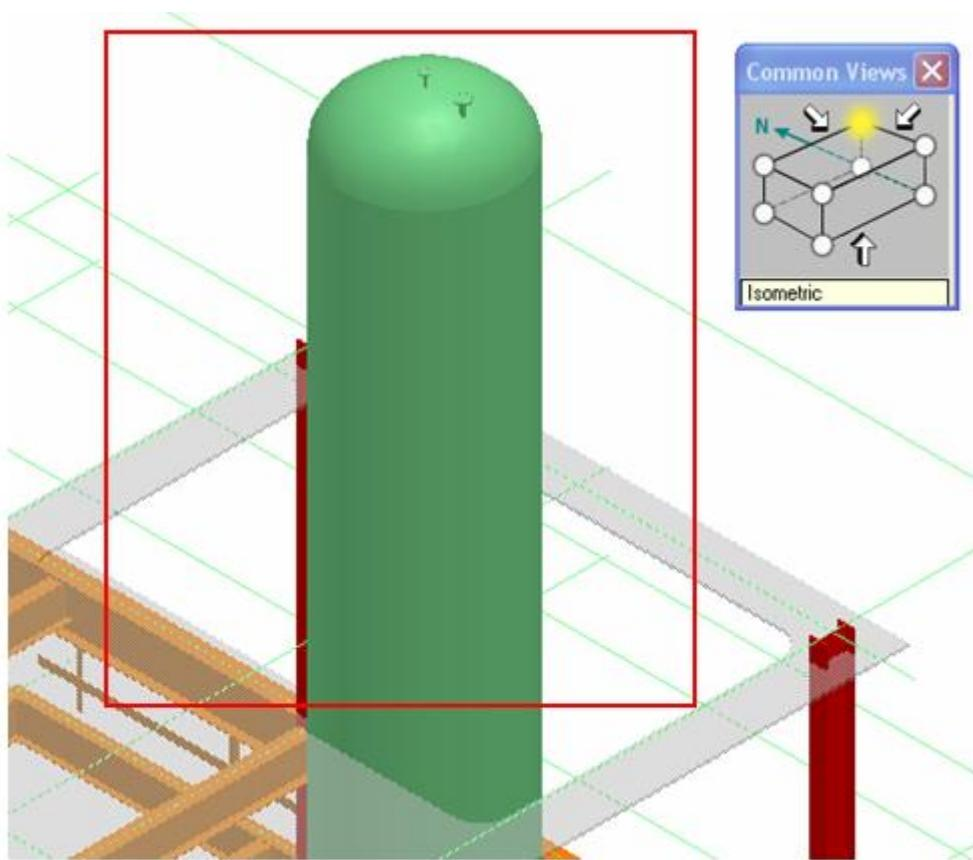

Figure 4. 18: Looking Isometric and Zoom Area View
3. Change the view to Isometric view and magnify the area highlighted in Figure 4. 18 by clicking the Fit and Zoom Area buttons on the Common toolbar. Choose an area that just includes the vertical vessel.